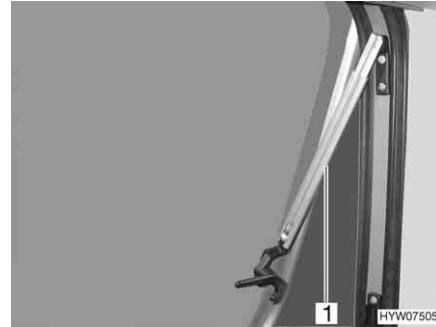

Fig. 79 Hinged window with automatic hinges, open
- Open the hinged window to the desired latched position. The automatic hinge (Fig. 79,1) locks in place automatically.